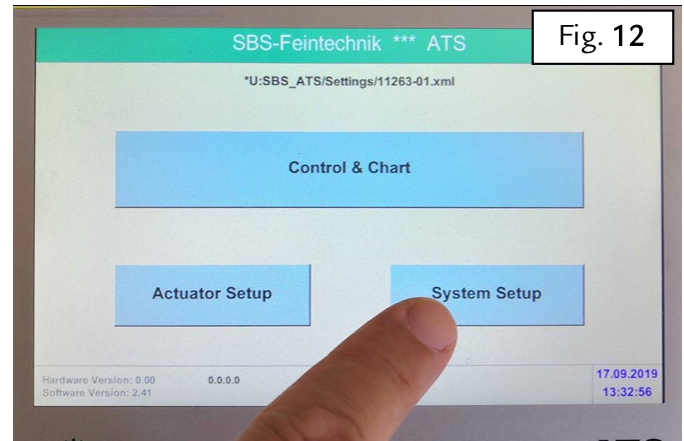

Fig. 12
- Switch the tester on and then press “**System Setup**” to launch the firmware update procedure - Fig.12.